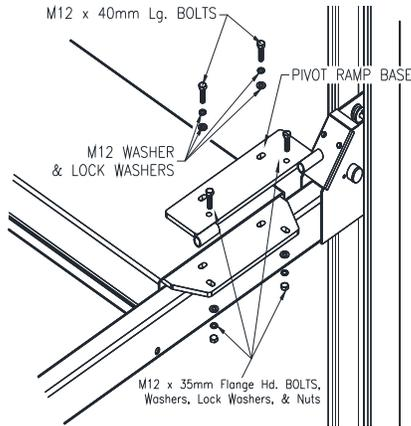

Fig 31 – Base Installation
- 3) Install the pivoting ramp base with two M12 x 40mm Lg. and two M12x35mm Flange head bolts, washers and nuts provided in the kit, and the lock washer and washer from the previous step, **Fig 31**. Note the location of flange head bolt in Fig 31. Repeat for other runway.